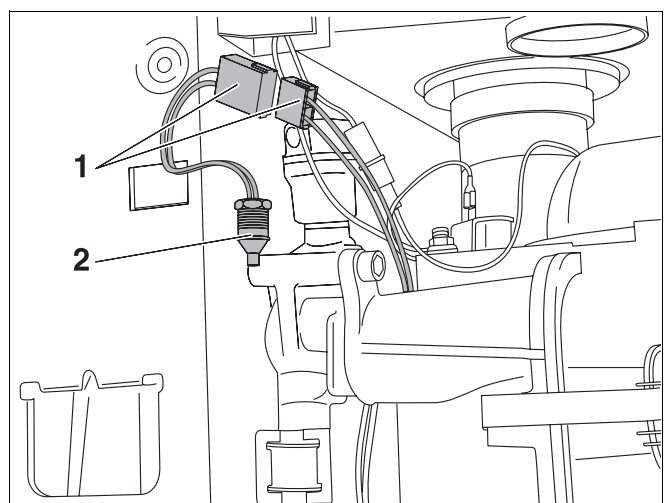

Fig. 59 Buderus 600 - 11R / 19R / 24R: replacing the safety sensor
- Loosen the plug-in connection (fig. 59, item 1).
- Unscrew the sensor (fig. 59, item 2) and replace with a new unit.